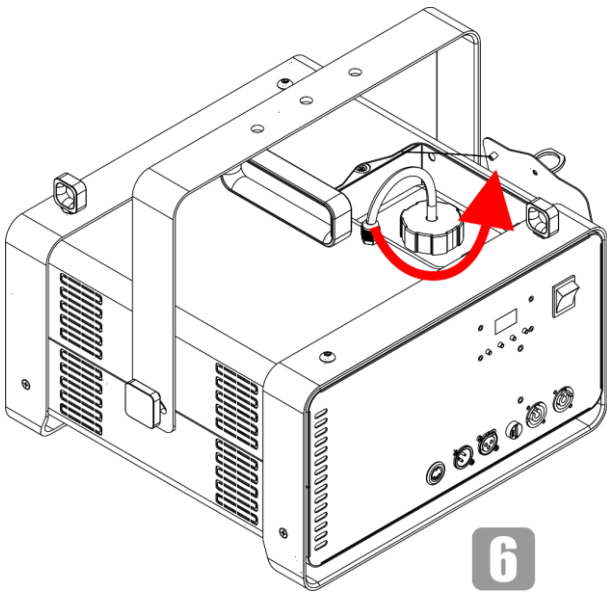

Fig. 25
- 06) Unscrew the lid on the fluid tank, as shown in Fig. 25.